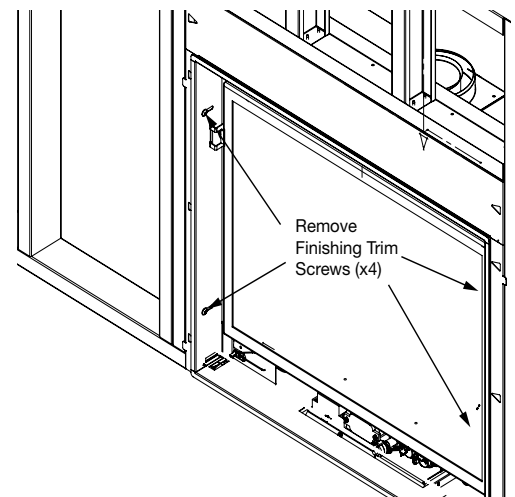

Figure 41: Z25 Finishing trim removal.
- Remove the 4 screws holding the adjustable Finishing Trim in place (Figure 41). The trim can accommodate wall finishes from 1/2" to 1-1/4" (12mm to 32mm).